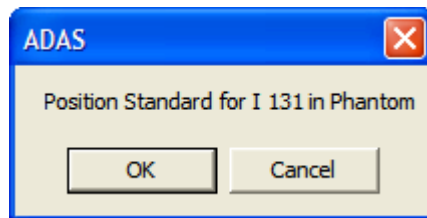

Figure 8-9
To accept the measurement and continue with the next step, click the button or press the *Y* key. Figure 8-9 will appear. To discard and recount the current measurement, click the button or press the *N* key. Figure 8-6 will re-appear.
- viii. The screen shown in Figure 8-9 appears next, prompting you to measure the selected isotope for efficiency measurement.
- ix. If more than one isotope was selected for the efficiency measurement, you will be returned to Figure 8-9 and prompted to measure the next isotope.